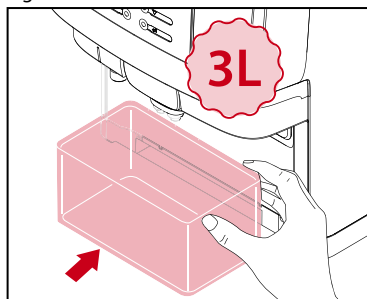

Fig.19
3. Remove the drip tray and place a 3 liter / 3 quart container (see Fig.19) under the outlets, then press **ENTER** . Follow the instructions on the display: **PRESS ENTER TO FLUSH**